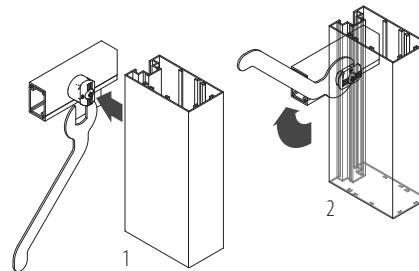

Figure 4d
- Keep the STYX profile in place and simultaneously turn the Quick Lock wrench clockwise in a 90 degree rotation to engage the Quick Lock at the top and bottom. (Figure 4d)